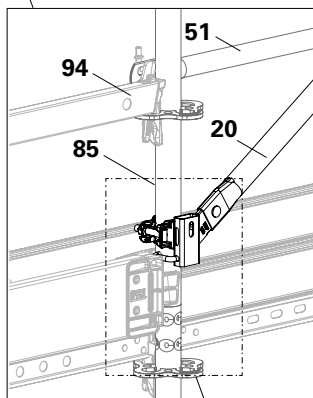

Fig. C1.06a
1. Form the outer leg of the Flex scaffold at the transition to the Easy scaffold from two Standards UVR 100 (85). The stake-out holes of the standards are used to assemble the Brace Adapter EBA (24).
2. Fit the Brace Adapter EBA (24). Insert the twist protection into the holes of the Standards UVR.
3. Fit Face Brace EBF (20). (Fig. C1.06a – C1.06c)